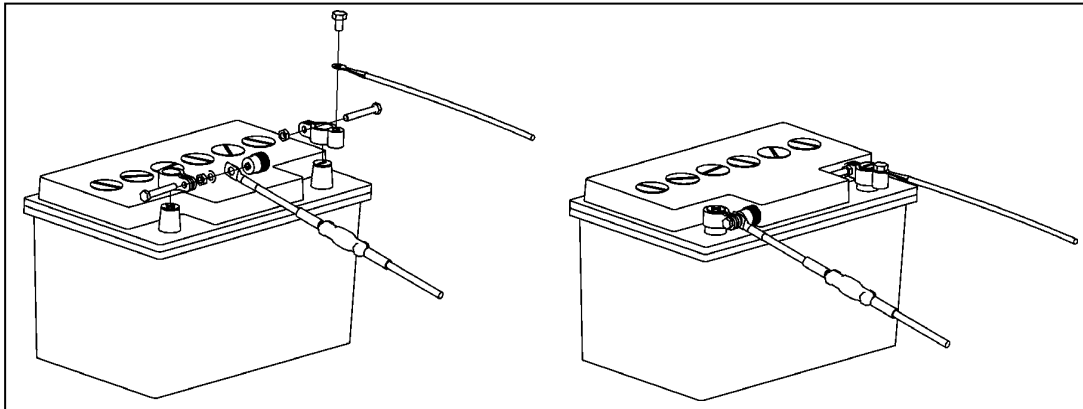

Figure 51
- Route the “power unit cable,” positive cable, and negative cable (25 mm²) for the power supply to the terminals provided for the battery and connect (see example in Fig. 51).